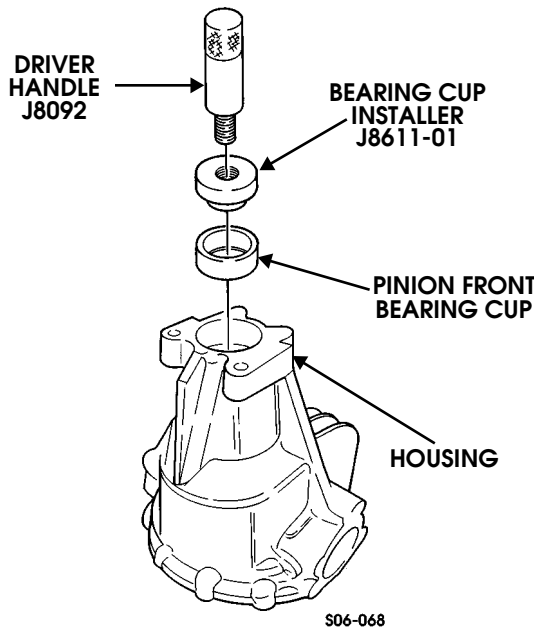

Figure 9-80: Pinion Front Bearing Cup Installation
- Rotate housing so front pinion bearing cup bore faces up (Figure 9-80).